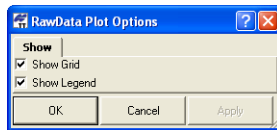

Figure 11-32. Raw Data Plot Options
- activate the *RawData Plot Options* dialog box (Figure 11-32) and show/hide *Grid* and *Legend*.